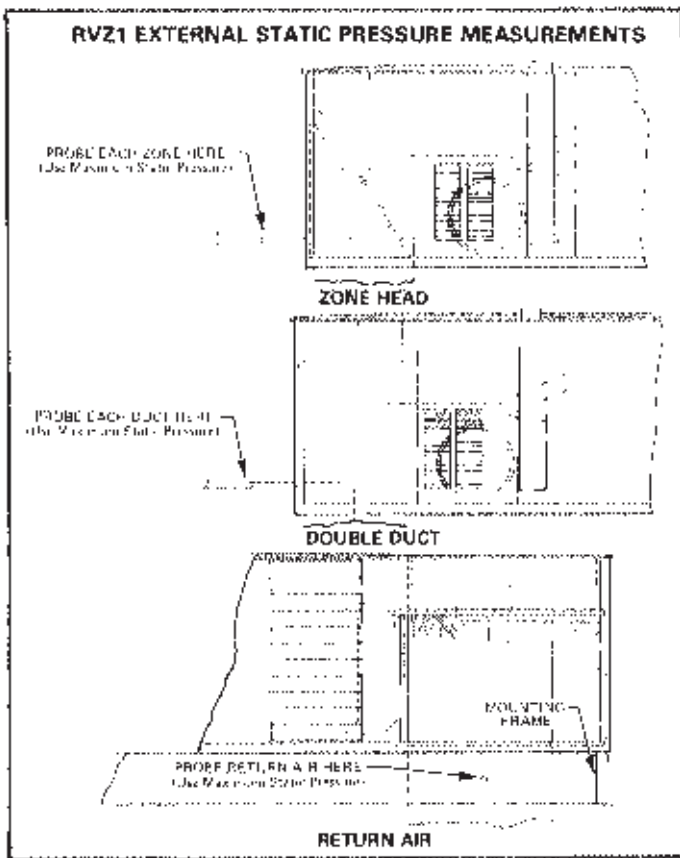

FIGURE 104
- 2 - Take external static pressures at locations specified in Figure 104.